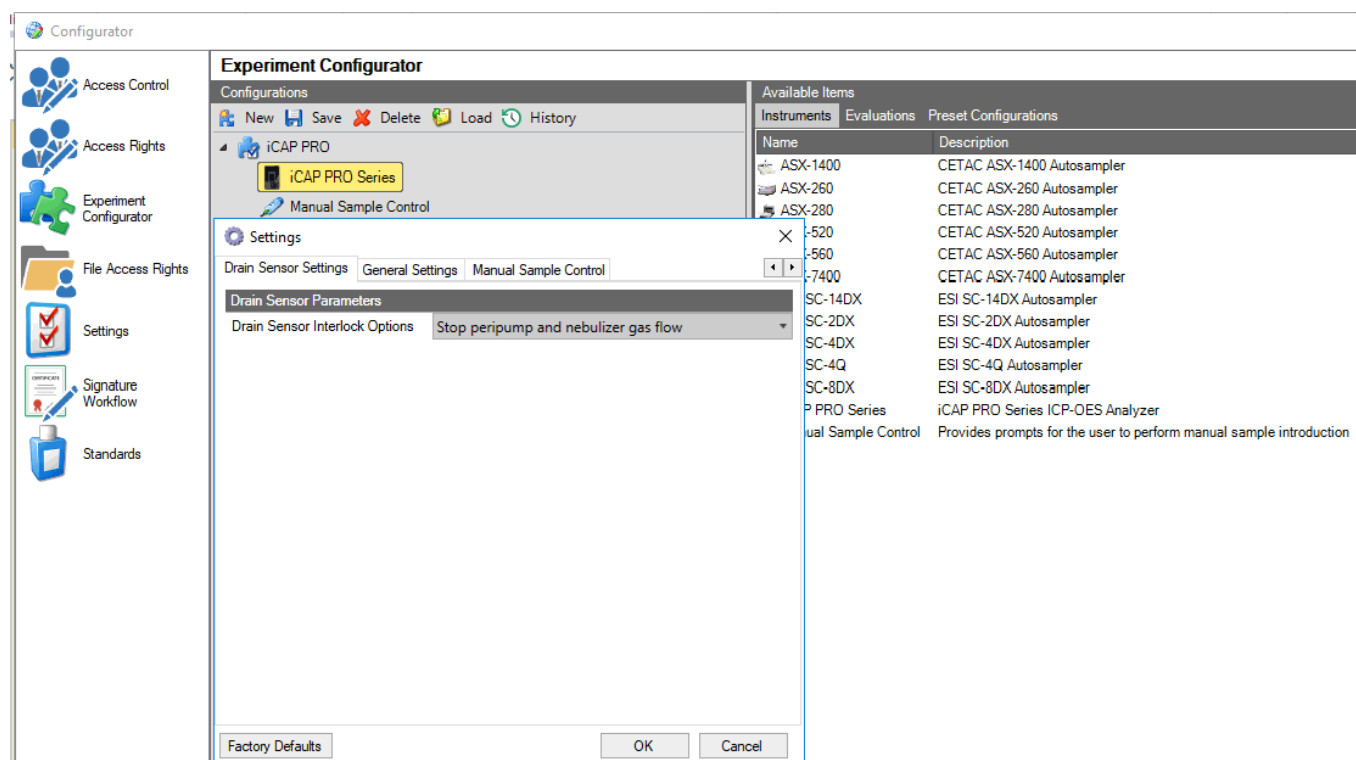

Figure 5-1. Drain Sensor Interlock options – Default on installation
6. To be able to verify the correct display of Drain Sensor interlock, do not disable by default. Choose **Drain Sensor Interlock Options** and set the value to **Stop peripump and nebulizer gas flow**. See Figure 5-1.